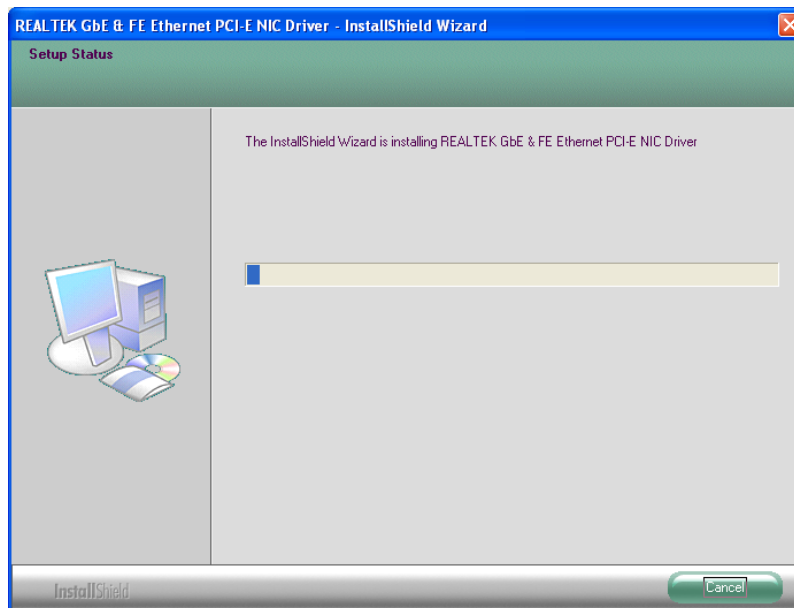

Figure 6-19: LAN Driver Installation
Step 8: The installation progress can be monitored in the progress bar shown in Figure 6-19.